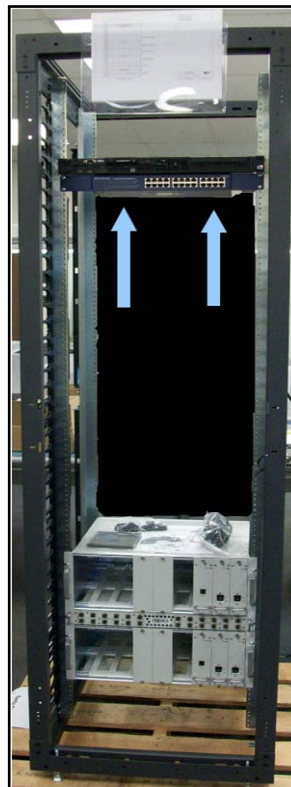

Figure 4-27. NMS Server
- Optional cabinet with NMS server and Host Unit installed as shown in **Figure 4-27**.